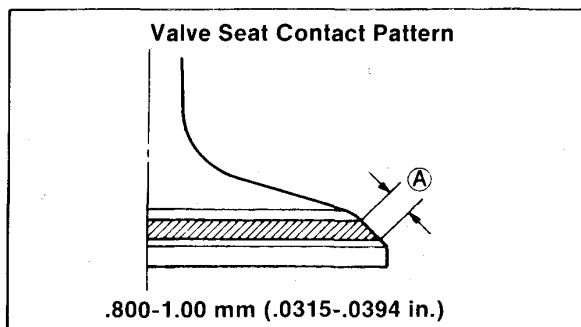

Figure 4-42
4. Valve seat contact is determined by coating the valve seat with Prussian Blue. Install the valve and rotate it in its seat. The width of the contact area for both intake and exhaust is shown in Fig. 4-42.